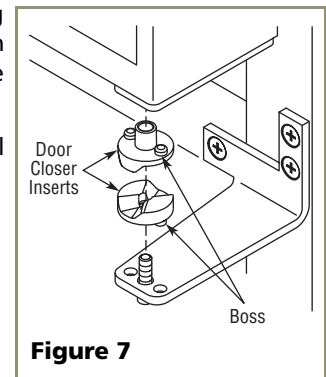

Figure 7
7. Reinstall the closers, lining up the bosses with holes in hinge and hinge plate (see **Figure 7**).